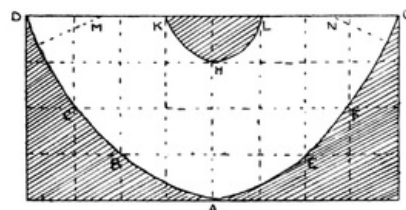

FIG. 61
**A Wigwam.** Begin with half a square (Fig. 61). Fold into thirty-two parts. Draw a curved line from A through B and C to D, and from A through E and F to G. Cut along these lines. Join K with H by a curved line and H with L. Cut along this line. Gum L N to K M. Fold back the corners G and D for the door. Strips of paper can be cut out and gummed inside the wigwam for poles. Designs can be drawn on wigwam as in Fig. 62. Marks from K to K show where it is laced up. The wigwam should be coloured brown, the circles on it red and